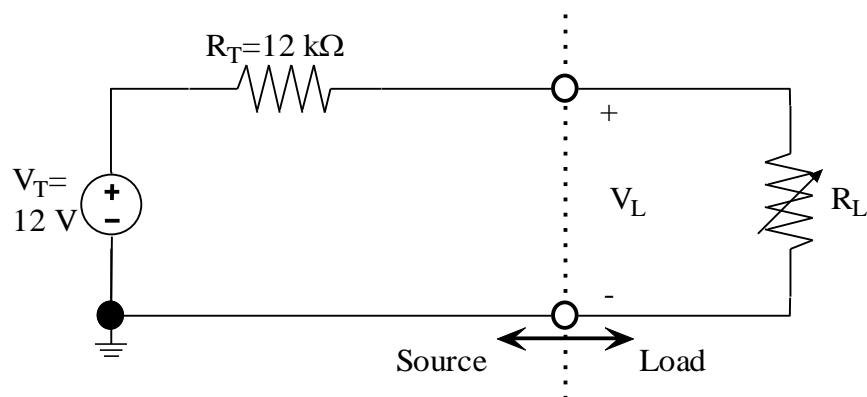

Fig. 6
Consider the circuit in Fig. 6 with the source voltage $V_T = 12\text{ V}$ and internal resistance $R_T = 12\text{ k}\Omega$.
- Draw the Norton equivalent of the circuit in Fig. 6. Apply load resistances R_L , as indicated in Table 2 and compute the currents into the loads and the associated loading errors. Enter all computed values into Table 2 and plot the load current I_L versus the variable load R_L in Graph 3. Note the discontinuity of the R_L scale in the graph.
- ✓ Build the circuit as shown in Fig 6 and keep the source voltage V_T constant at 12V and vary the load resistance R_L as indicated in Table 1.
¹ In this context $\Delta I = I_N - I_L$ is the difference between the equivalent Norton current I_N (of the circuit in Fig. 6) and the current I_L into the load.